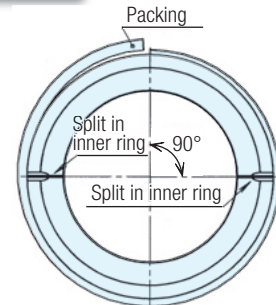

Fig. 7 Packing Installation
- (1) Fit the packing to the groove so that the cut in the packing is at a 90° position from the split in the inner ring (see **Fig. 7**).
- (2) Apply the liquid packing on the cut surface of the packing. Wait until the liquid packing is touch-dry.